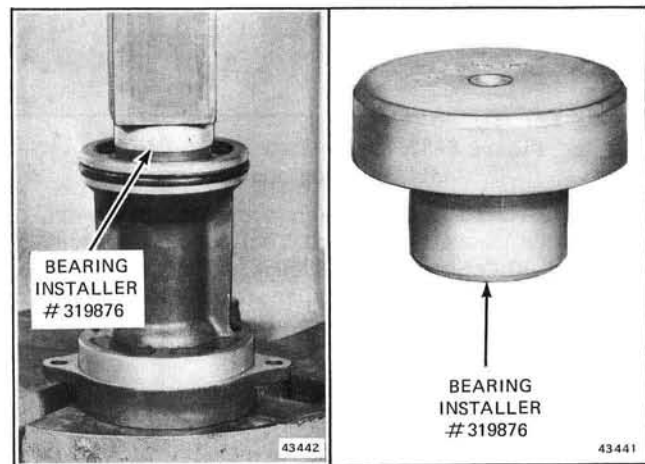
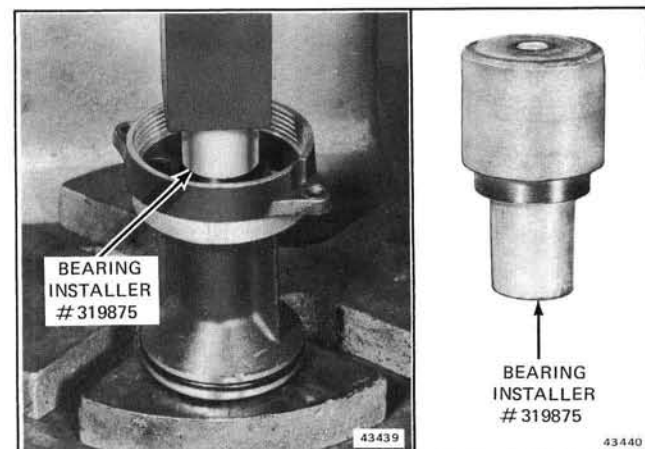
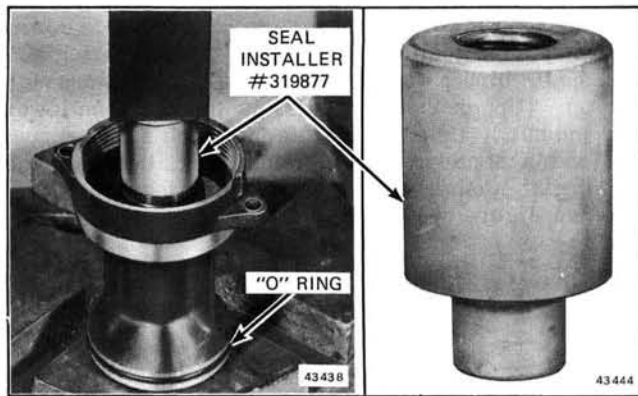

Figure 6-38. Installing Reverse Gear Bearing in Bearing Housing
Figure 6-39. Installing Bearing in Bearing Housing
Figure 6-40. Installing Bearing Housing Seals
- If removed, install reverse gear bearing in bearing housing, using bearing installer (Special OMC Tool #319876) and an arbor press. Press against lettered side of case. See Figure 6-38. Install front bearing using bearing installer (Special OMC Tool #319875) and an arbor press. Press against lettered side of case. See Figure 6-39. Using seal installer (OMC Special Tool #319877) and an arbor press, press two seals (back to back) into the bearing housing. Install a new "O" ring. See Figure 6-40.